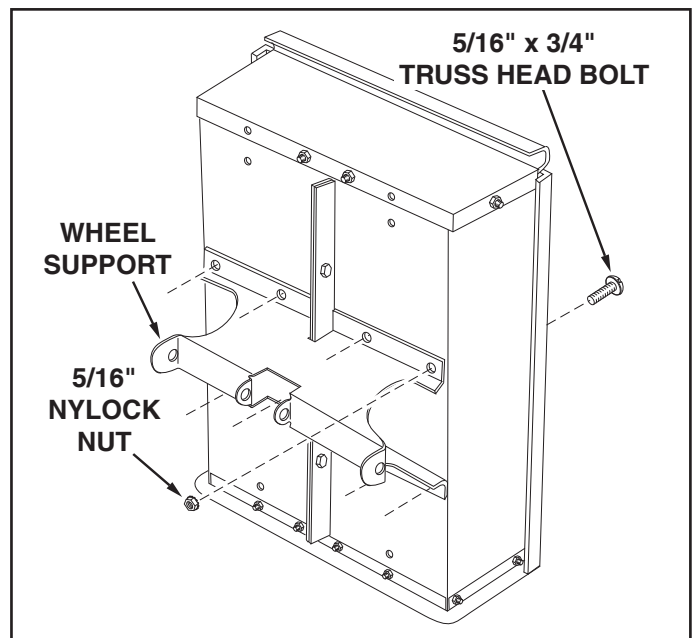

FIGURE 5
- Assemble the wheel support to the cart using eight 5/16" x 3/4" truss head bolts and 5/16" nylock nuts as shown in figure 5. Heads of bolts go to the inside of cart bed. **Tighten.**